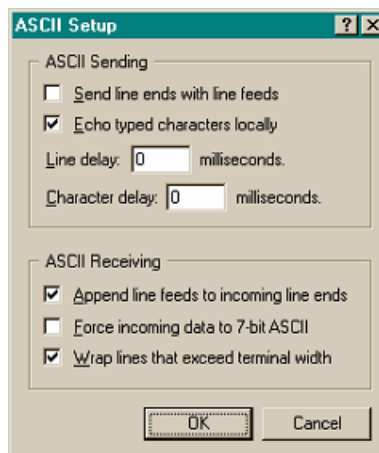

Figure 7-10: ASCII Setup Screen
8. Match the *ASCII Setup* screen (Figure 7-10), and then select **File > Save As** and save to the desktop if you want to create an icon for Communications on the Windows desktop.